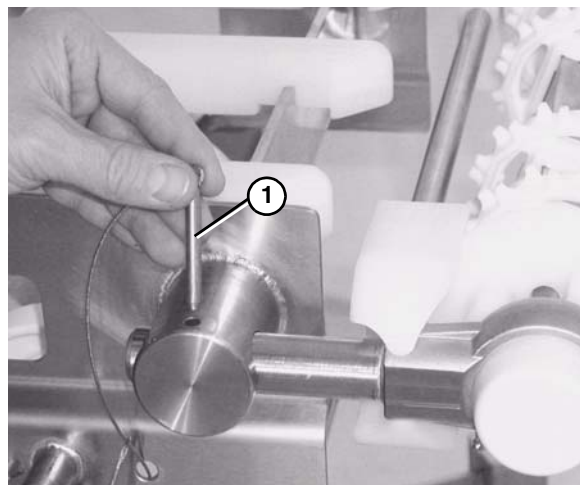

Figure 40
8. Insert the pull pins (**Figure 40, item 1**) on the tension end of the conveyor.